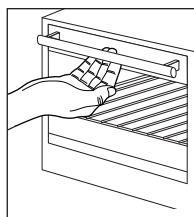

Figure 1
Step 1: Grab the center of the handle underhanded with fingertips (See Figure 1).